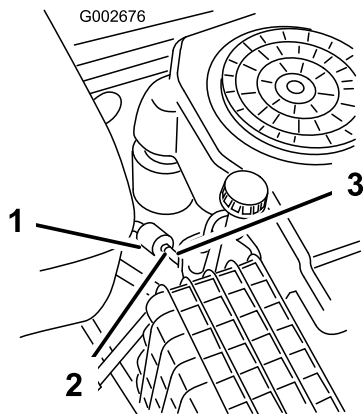

Figure 29
5. Loosen the hose clamp at the fuel filter and slide it up the fuel line away from the fuel filter (Figure 29).
6. Pull the fuel line off of the fuel filter (Figure 29).
8. Install the fuel line onto the fuel filter. Slide the hose clamp close to the fuel filter to secure the fuel line (Figure 29).